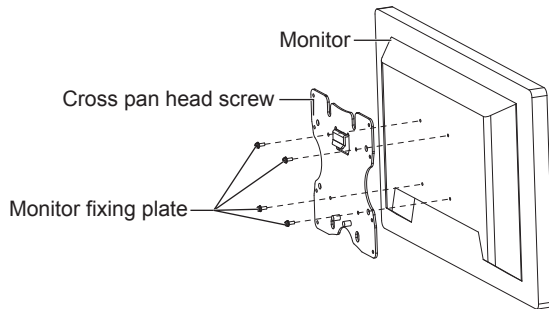

Figure 15 Installing Monitor Fixing Plate
- a. Use four M4 $\times$ 20 cross pan head screws or four M4 $\times$ 25 cross pan head screws according to different monitors to fix the monitor fix plate onto the back of the monitor; as shown in Figure 15.